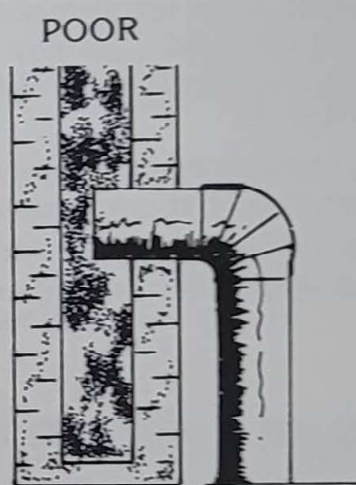

FIGURE 4
2. The comforter can be attached to an existing masonry chimney provided it has been thoroughly inspected for cracks or loose mortar. Any such defect should be repaired to ensure safe operation of the stove. When connecting to a masonry chimney, the chimney connector shall extend through the wall to the innerface, or liner, but not beyond, and shall be firmly cemented in place. A thimble may be used to enable the removal of the chimney connector for cleaning. If it is not used, the chimney connector should be permanently cemented in place. See Figures 4 and 5.